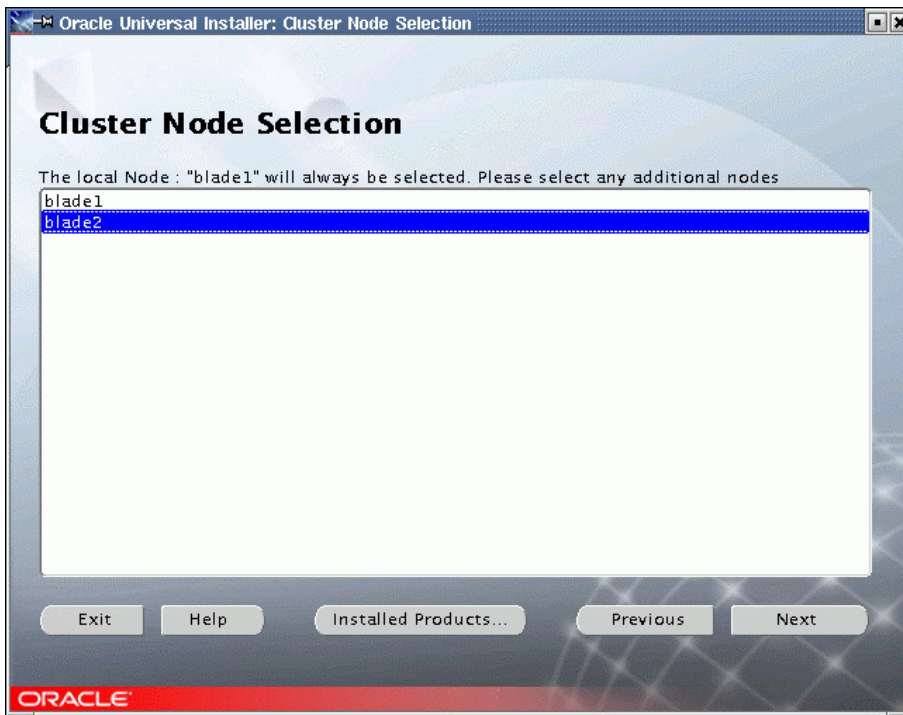

Figure 39. Cluster Node Selection
1. As `oracle` user, start the Oracle Universal Installer on blade1 again. Click **Next** on the Welcome screen and you will be prompted for the cluster nodes on which to install. The Cluster Node Selection window is shown in Figure 39. Select the nodes in the cluster and click **Next** to continue. Note that blade1, where OUI is being run, does not need to be highlighted, since it is always selected.